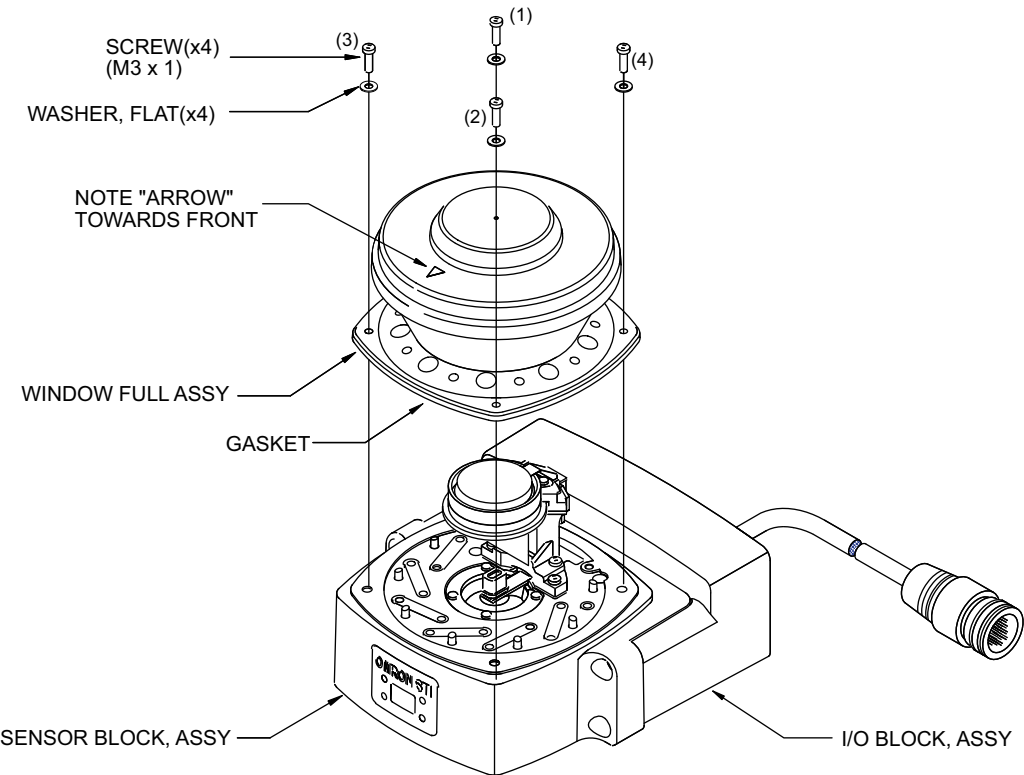

Fig. 7-6 Window Replacement
7. While applying even pressure to the top of the window, evenly tighten the four screws with flat washers in an alternating pattern ( Fig. 7-6). It is recommended that the screws be tightened to a torque of 0.56N•m (5.0 in.• lb).